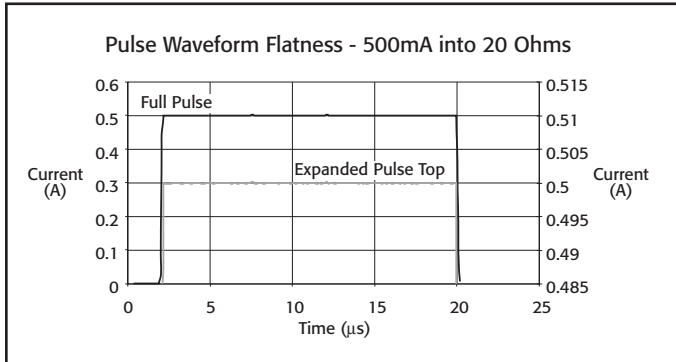

Figure 1
The mainframe and remote test head architecture of the Model 2520 is designed to enhance pulsed measurement accuracy, even at the sub-microsecond level. The remote test head ensures the measurement circuitry is located near the DUT, mounted on the fixture, minimizing cable effects. As the schematic in **Figure 1** shows, traditional semi-custom systems typically employed in the past require significant integration. The architecture of the Model 2520 (**Figure 2**) offers a far more compact and ready-to-use solution.
Figure 1. This schematic reflects the current testing practices of major laser diode manufacturers. Note that the use of discrete test components increases the integration and programming effort, while severely limiting the flexibility of the test system.
- Figures 1 and 2 are typical pulse outputs into resistive loads.